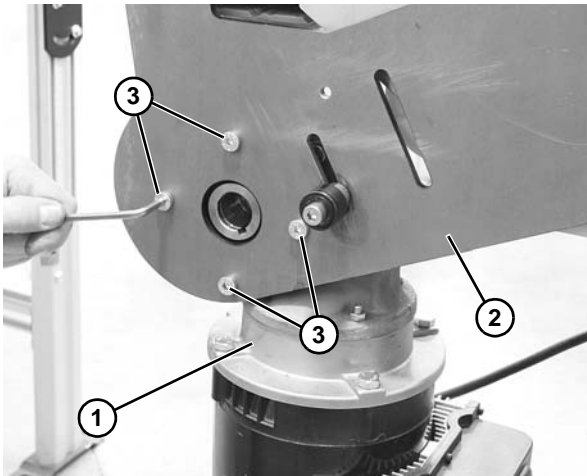

Figure 20
1. Attach the motor (Figure 20, item 1) to the bottom mount plate (Figure 20, item 2) with four screws (Figure 20, item 3).